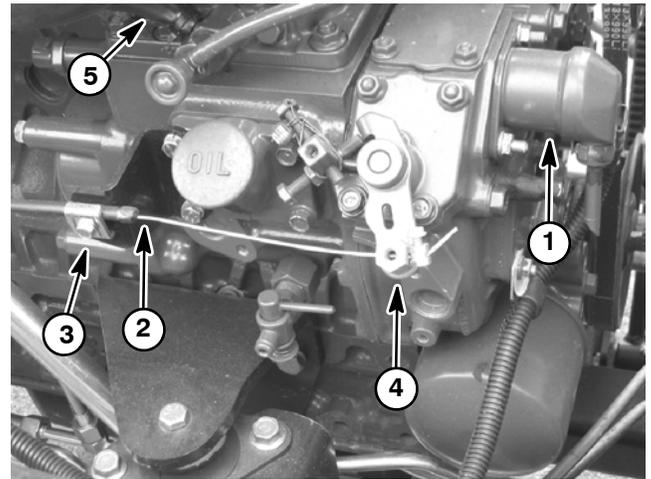

Figure 9
- A. The engine run solenoid (Fig. 9).
8. Disconnect fuel supply hose from injection pump (Fig. 9). Cap fuel hose and injector pump fuel inlet to prevent contamination.
9. Remove throttle cable from engine (Fig. 9):
C. Remove six (6) cap screws and flange nuts that secure fan motor bracket to radiator.